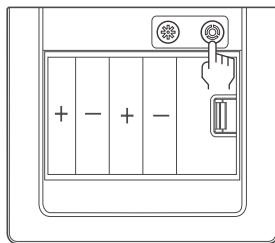

Figure 4
2. As shown in Figure 4, press the black safe mode button 'ⓘ' on the battery compartment and there will be a voice prompt 'Enter high security mode successfully', indicating successful activation. Press the button again can turn 'Safe mode' off.